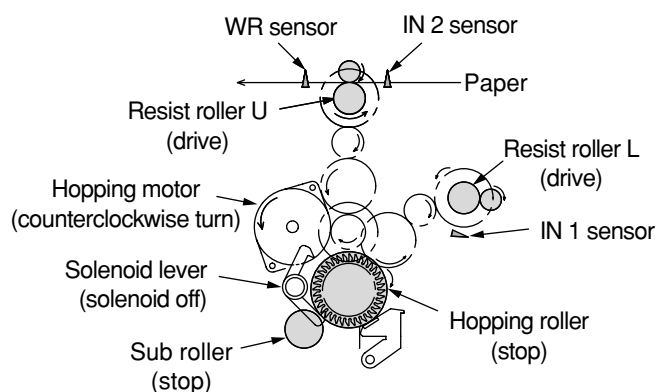

Figure 2-3
2. As shown in Figure 2-3, the resist motor turns counterclockwise and the paper is transported by the resist roller U. (When the resist roller turns counterclockwise, the resist roller U drives.)